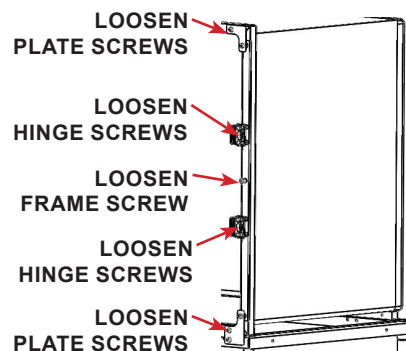

FIGURE 2.54 - Loosen Hardware
**STEP 3:** Loosen, but do NOT remove the screws along the side of the cage holding the trim plates and door hardware. See FIGURE 2.54